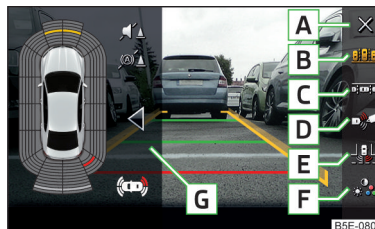

Fig. 252
Function surfaces » Fig. 252
- › Tap the function surface **C** » Fig. 252 on page 220.